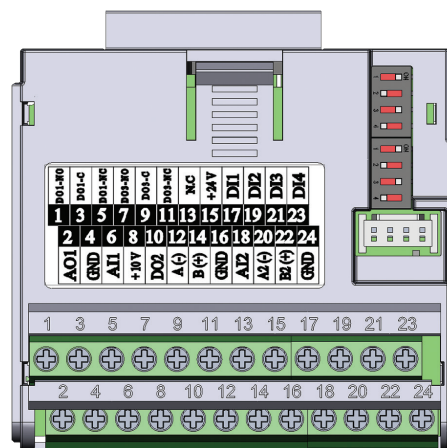

Figure 19.4: Plug-in module CFW500-CRS485
The CFW500-CRS485 plug-in module has Serial (1) interface through RS-485 port at terminals 12 (A-) and 14 (B+), as well as the Serial (2) interface through another RS-485 port at terminals 20 (A2+) and 22 (B2+), see Figure 19.4 on page 19-1.